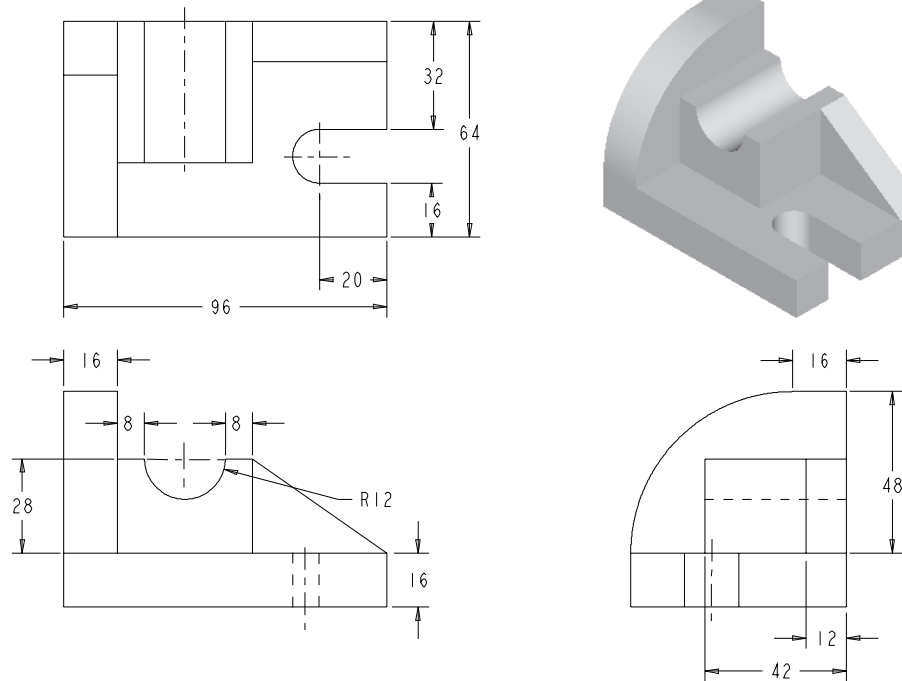

Figure 5-73 Top, front, right-side, and isometric views of the model
In this tutorial, you will create the model shown in Figure 5-73. This figure also shows the front, top, and right-side views of the solid model. **(Expected time: 45 min)**
- a. Examine the model and determine the number of features in it, refer to Figure 5-73.